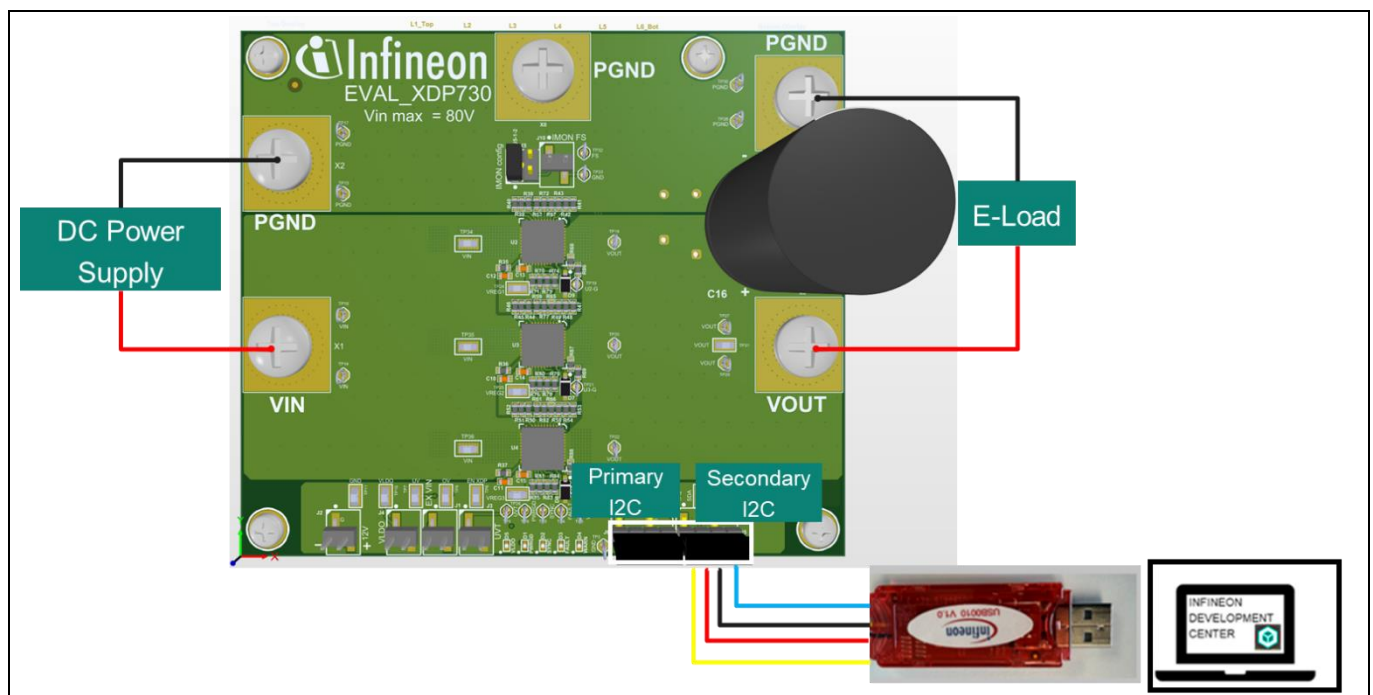

Figure 13 XDP730-001 Evaluation Board and dongle setup
1. Connect the USB0010 dongle to the XDP730-001 Evaluation Board as shown in Figure 13